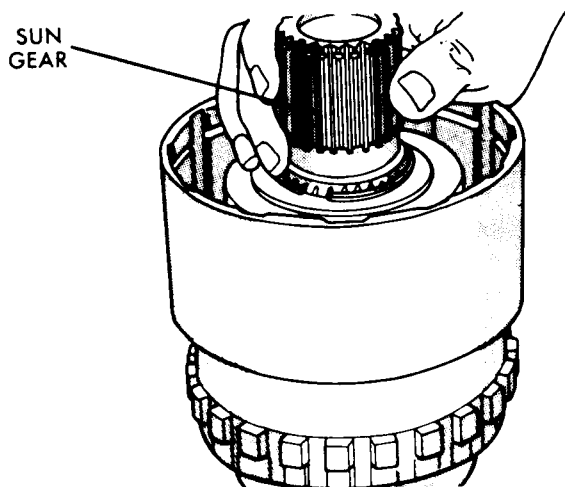

Fig. 5—Install Sun Gear
(4) Set needle bearing in place, remove tool, and install sun gear (Fig. 5). Set spring on sun